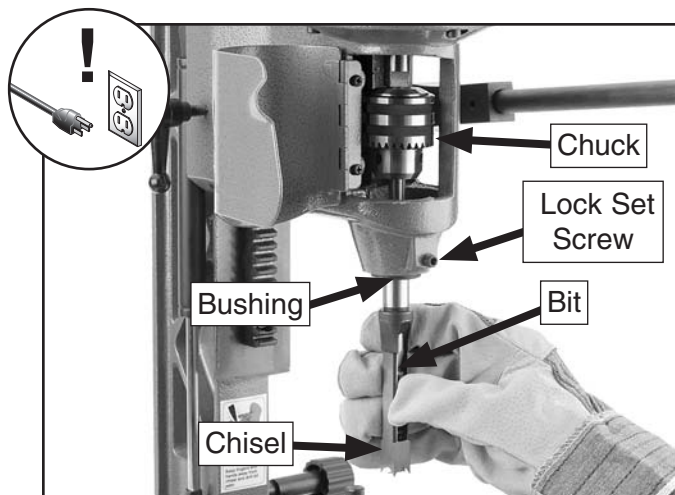

Figure 19. Inserting chisel into bushing.
4. Slide the bit into the chisel and loosen the chisel lock set screw (**Figure 19**) on the headstock.
5. Insert the chisel into the bushing shown in **Figure 19**, and tighten the chisel lock set screw.